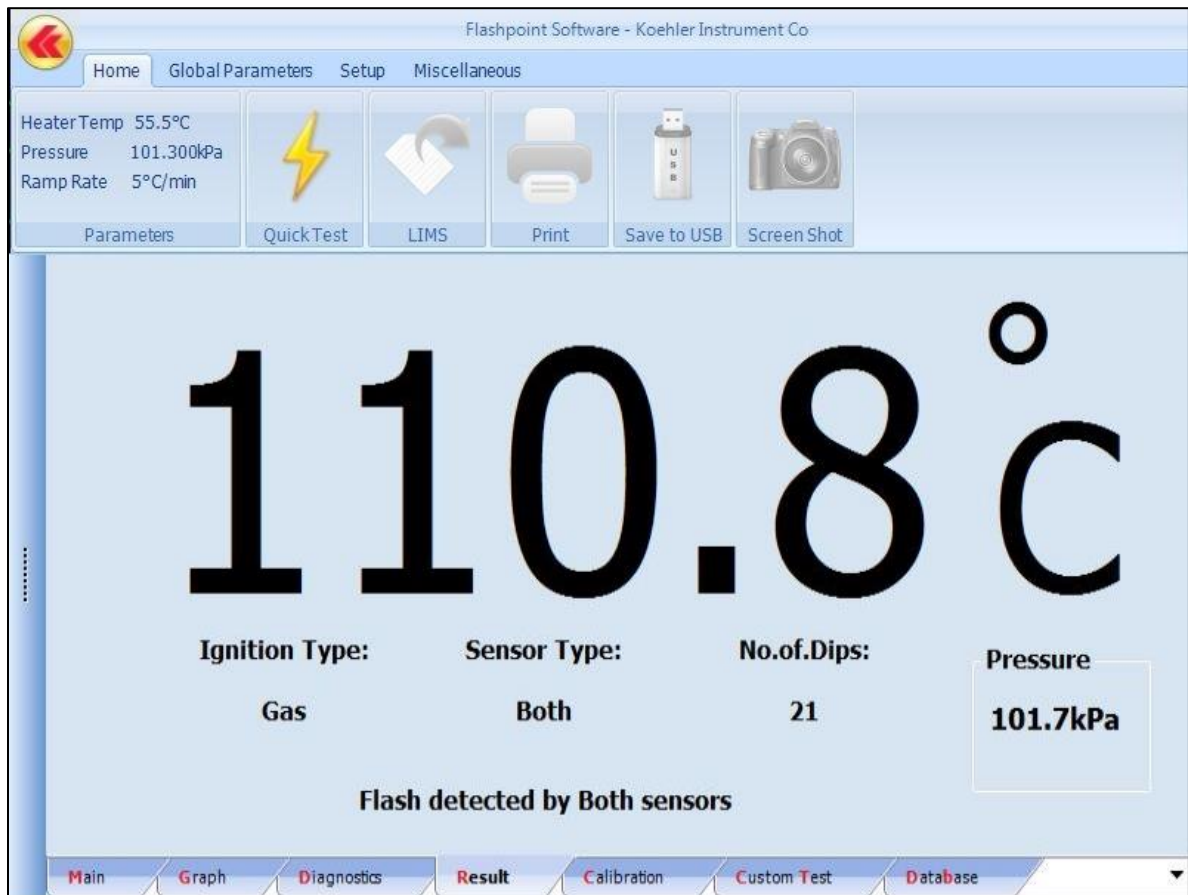

Figure 14: Result Screen
7. **Result Screen** - After a Flash Point Test is complete, the Results Screen will be displayed. See **Figure 14** below. The corrected flash point value is prominently displayed at the center of the screen. Additionally, the **Type of Ignition** used to perform the test is displayed as well as the **Sensor Type** which detected the flash, the **Number of Test Dips** that occurred throughout the duration of the test, and the **Barometric Pressure** measured during the test.